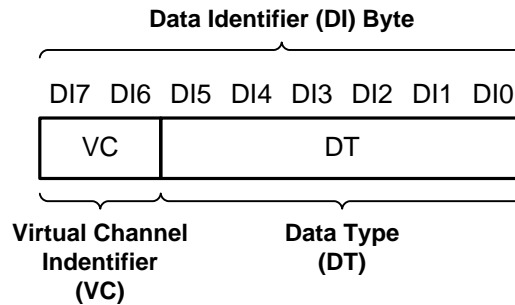

Figure 22. CSI-2 Data Identifier Structure
The DS90UB960-Q1 MIPI CSI-2 protocol interface transmits the data identifier byte containing the values for the virtual channel ID (VC) and data type (DT) for the application specific payload data, as shown in Figure 22. The virtual channel ID is contained in the 2 MSBs of the data identifier byte and identify the data as directed to one of four virtual channels. The value of the data type is contained in the 6 LSbs of the data identifier byte. When partnered with a DS90UB935-Q1 or DS90UB953-Q1 serializer, the Data Type is passed through from the received CSI-2 packets. When partnered with a DS90UB933-Q1 or DS90UB913A-Q1 the received RAW mode data is converted to CSI-2 Tx packets with assigned data type and virtual channel ID.